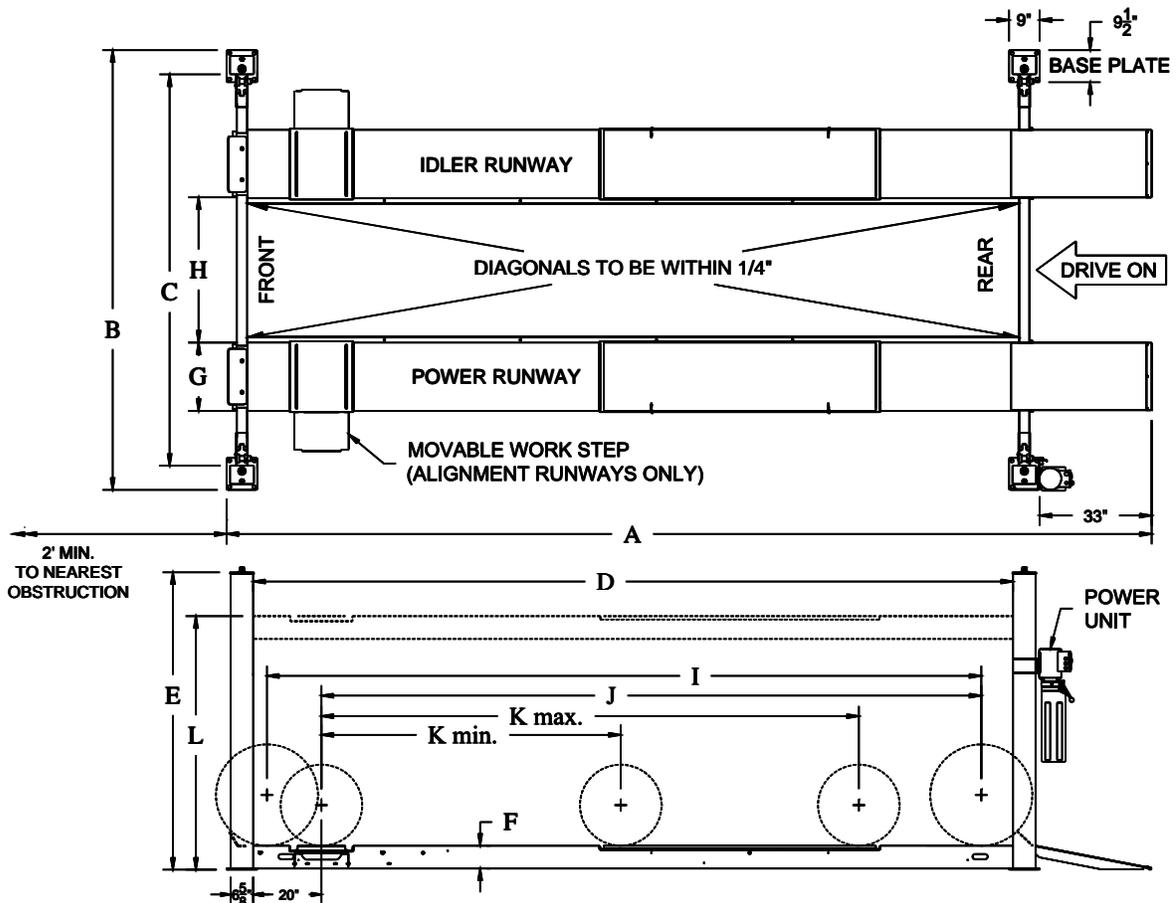
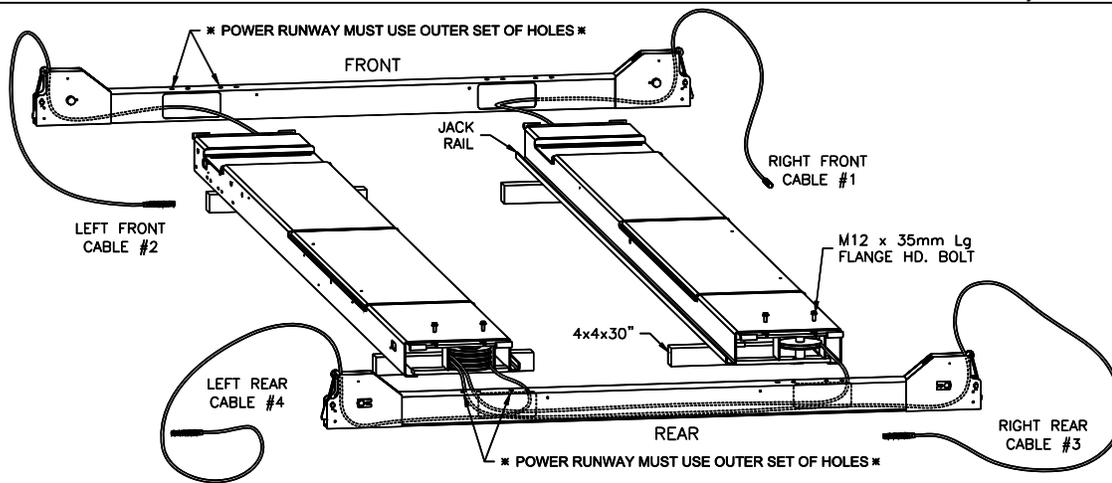

Fig 1 – General Specifications and Service Bay Layout
Fig 4 – Runway Layout
- 1) Lay out the service bay according to the architect's plans or owners instructions (**see Fig 1**). Be certain that the proper conditions exist, see page 3.
- 3) Position runways on blocking (*see Fig 4*) per layout lines established in step 1. Use four 30" long 4x4's spanning the width of the runway. Cable #1, #3, & #4 should be extending out from the rear of the power runway and cable #2 from the front of the power runway, **Fig 4**.
- 4) Position the front and rear cross beams, **Fig 4**. (Both cross beams are identical.)
- 5) Reach in through either of the access holes in the rear cross beam tube and pull out the roll of 1/8" dia. plastic air line connected to the air cylinder at the end of the cross beam. Repeat for opposite access hole and position the cross beam near the end of the runways as in **Fig 4**.
- 13) Attach both cross beams to the runways (**Fig. 4**) with M12 x 35mm lg. flange head bolts (two at each end of each runway) being careful not to pinch the air line. Leave the air lines hanging out the bottom of the cross beam access holes at this time, they will be fed in through the runway after the lift is raised. **The outermost power runway slots should be in line with the outermost holes in the top of the cross beam, see Fig. 4.** The idler runway can be installed using the outer or inner sets of cross beam holes, see "Width Between Runways" dimension in Fig. 1. Do not torque bolts yet.